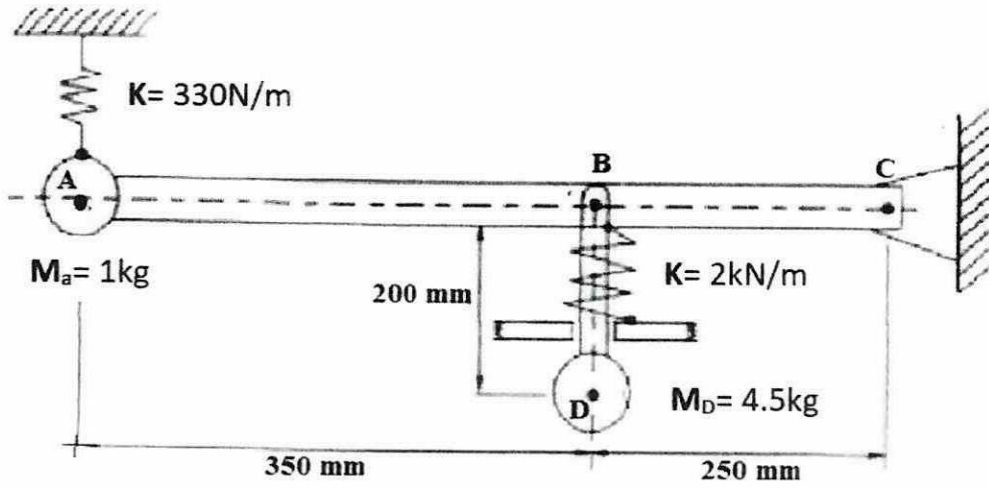

Figure Q1(a)
- Q1 (a)** Figure Q1(a) shows the ABC lever ($I = \frac{1}{3} ml^2$) that has a uniform section and masses of 3 kg. It is in pivot at C and carries a mass of 1 kg at A. Arm BD of 1.5 kg and carries a mass of 4.5 kg at D. The spring constant at A is 330 N / m and at BD is 2 kN / m.